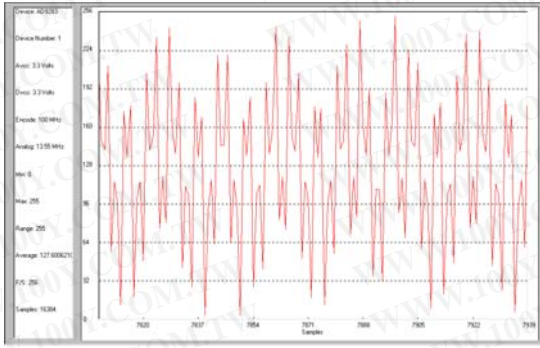

Figure 20. Incorrect Setting for Twos Complement
5. Ensure that the **Twos Complement** button is set correctly under Config > FFT. If the Twos Complement box is checked and the ADC outputs are not in Twos Complement format, a time-domain plot may look like Figure 20.